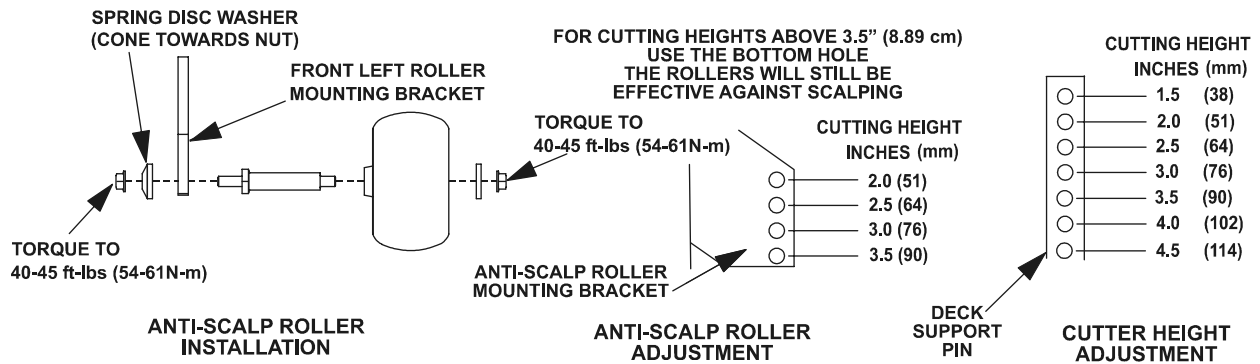

FIGURE 13
- b) Install hairpin clips in the holes shown on sketch below for the desired cutting height (See Figure 13).
- c) Adjust anti-scalp rollers for Normal Operating Conditions. Stop engine and wait for all moving parts to stop. Place rollers in one of the positions shown in Figure 13. Rollers will maintain 3/4 in. (19 mm) clearance to the ground to minimize gouging and roller wear or damage. **For Maximum Deck Flotation**, place rollers one hole position lower. Rollers should maintain 1/4 in. (6.4 mm) minimum clearance to ground. **Do Not** adjust rollers to support the deck. Be sure the spring disc washer is installed with the cone towards the nut. Tighten nuts properly.
- d) When operating in extremely rough conditions it may be necessary to position the anti-scalp rollers one or two holes higher than described in "b" to prevent damage to the rollers and/or bolt failure (See Figure 13).